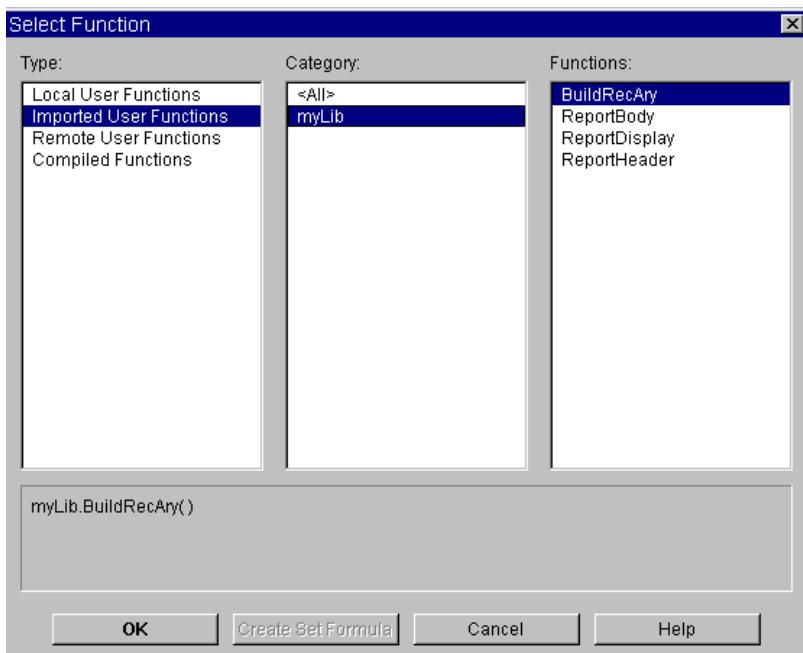

Figure 8-18. Selecting a Function from an Imported Library
5. Open the `Call` Function object menu and click `Select Function` to show a list of the functions imported with the `Load Lib` command. Select `myLib.BuildRecAry` as shown in Figure 8-18.